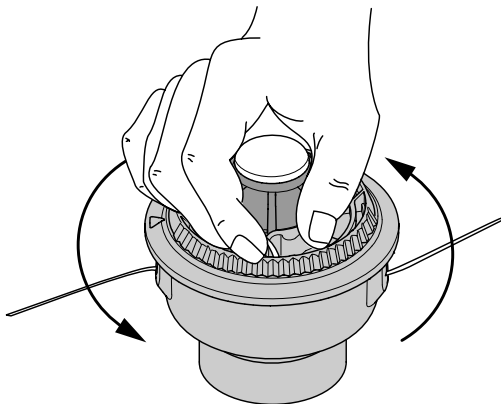

Fig. 18
8. Hold the outer spool. Wind the inner reel counterclockwise until approximately four (4) inches (102 mm) of line remain (Fig. 18).